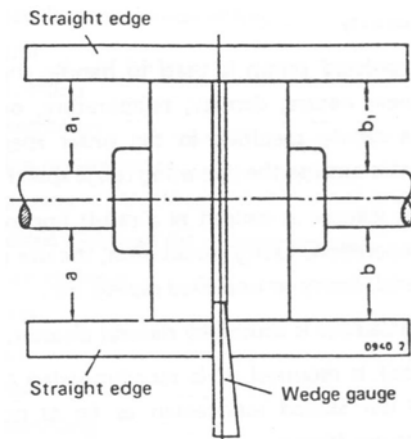

Fig. 3
- (1) Centering and leveling can be performed easily by holding a straightedge on the flange top of the coupling set and inserting a wedge gauge between two coupling halves, as illustrated in Fig. 3.